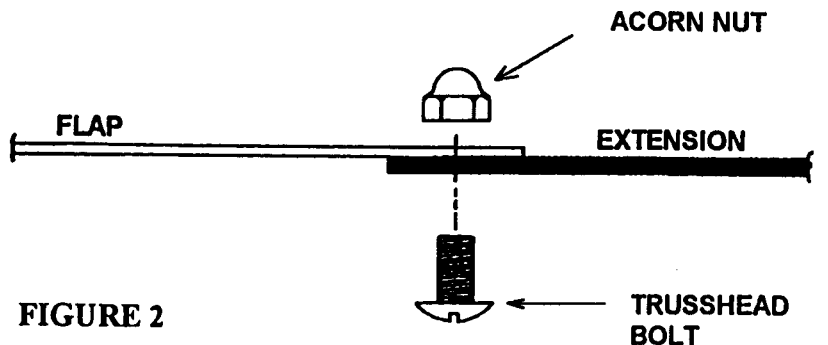

FIGURE 2
STEP 3: Using C-clamps or Vise Grips, clamp the flap extension to flap. Install trusshead bolts and acorn nuts. SEE FIGURE 2.